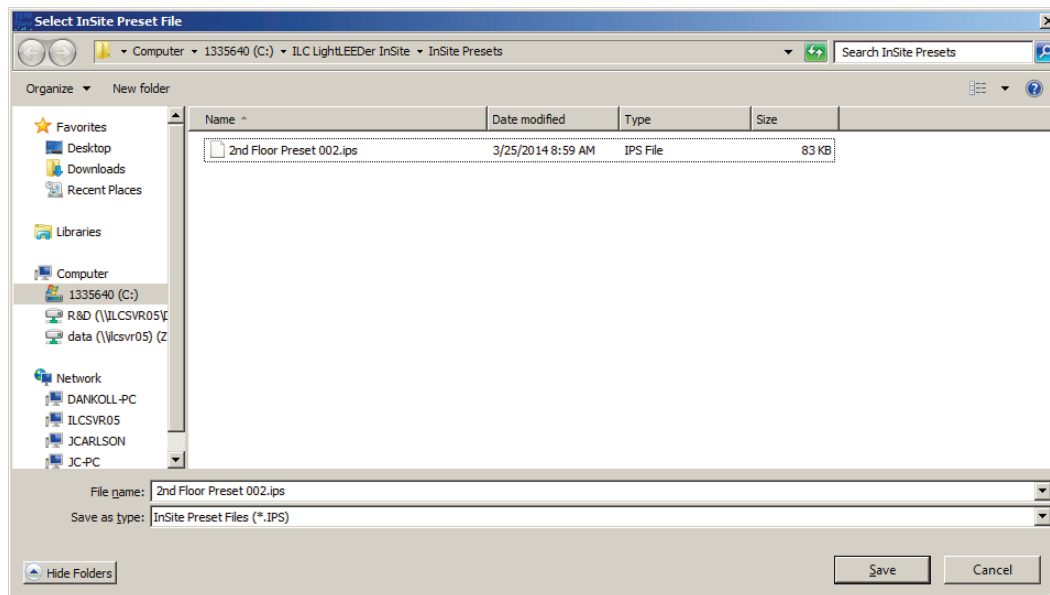

Figure 2.8 Saving an InSite Preset
6. Save the InSite Preset by selecting File, Save as for a New Preset and Save for editing an existing Preset as shown in figure 2.8